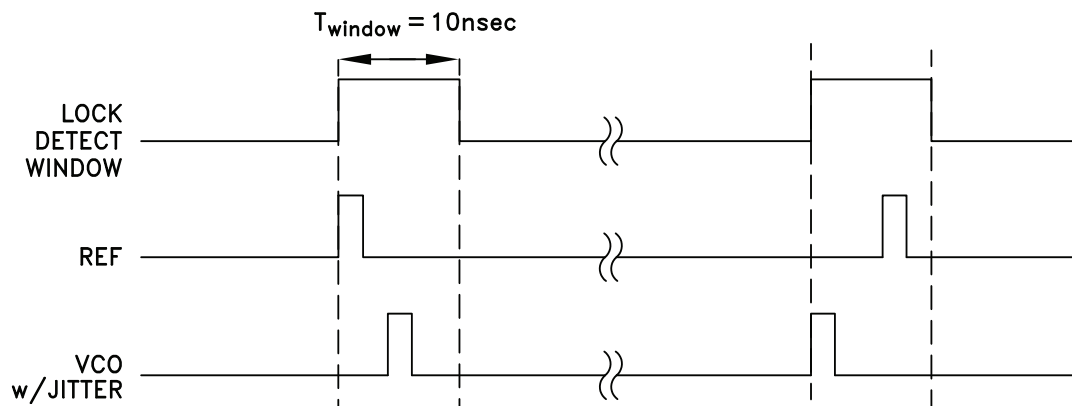

Figure 11. Normal Lock Detect Window
The Lock Detect circuit in the HMC700LP4(E) places a one shot window around the reference. The one shot window may be generated by either an analog one shot circuit or a digital one shot based upon an internal ring oscillator. Clearing *ringosc\_oneshot\_sel* (Table 14) will result in a fixed analog based nominal 10 nsec window, as shown in Figure 11. Setting *ringosc\_oneshot\_sel* will result in a variable length window based upon a high frequency internal ring oscillator. The ring oscillator frequency is controlled by *ringosc\_cfg*. The resulting lock detect window period is then generated by the number of ring oscillator periods defined in *oneshot\_duration*, both in (Table 14).
The Lock Detect Flag is output to LD\_SDO pin according to *pdf\_LD\_opEn* (Table 18) or to the internal SPI read only register if *locked* = 1 (Table 21). Setting *pdf\_LD\_opEn* will display the Lock Detect Flag on LD\_SDO except when a serial port read is requested, in which case the pin reverts temporarily to the Serial Data Out pin, and returns to the Lock Detect Flag after the read is completed. Timing of the Lock Detect and Serial Data Out functions are shown in Figure 11.